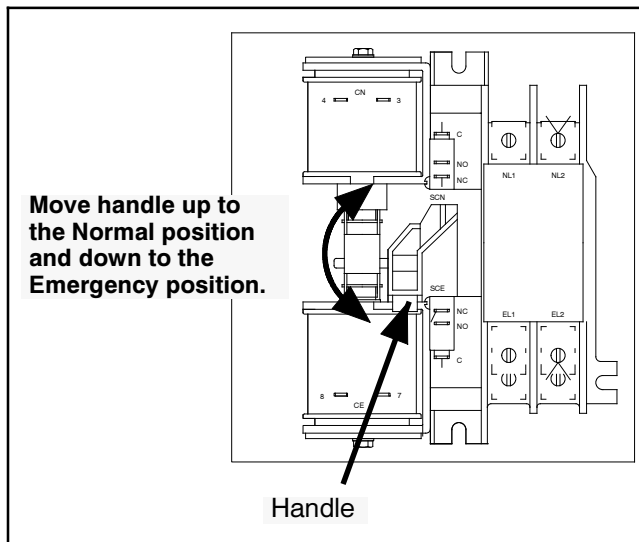

Figure 2-4 Manual Operation, 100 and 200 Amp Switches
1. Move the handle up to place the transfer switch in the Normal Source position and down to place the contactor in the Emergency Source position. See Figure 2-4.